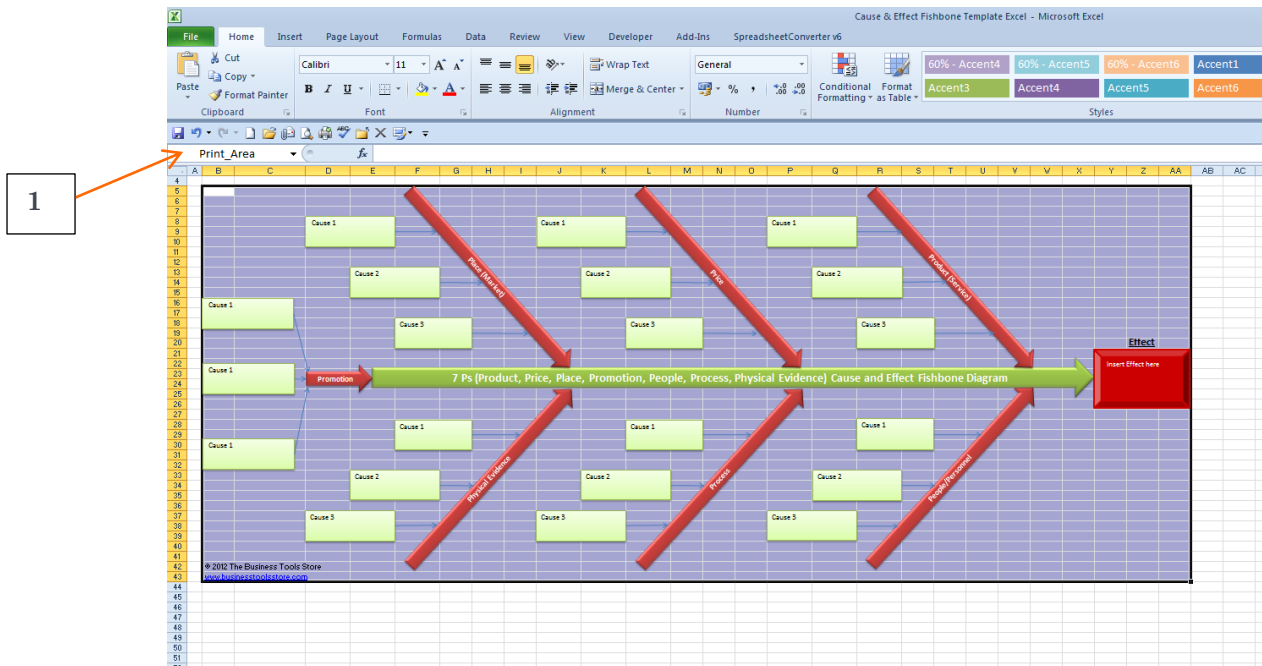

Figure 5 Selecting the Print area of the Cause and Effect Ishikawa Fishbone Diagram
1. Select "Print_Area" from the dropdown list as depicted in item 1 in figure 5 above.